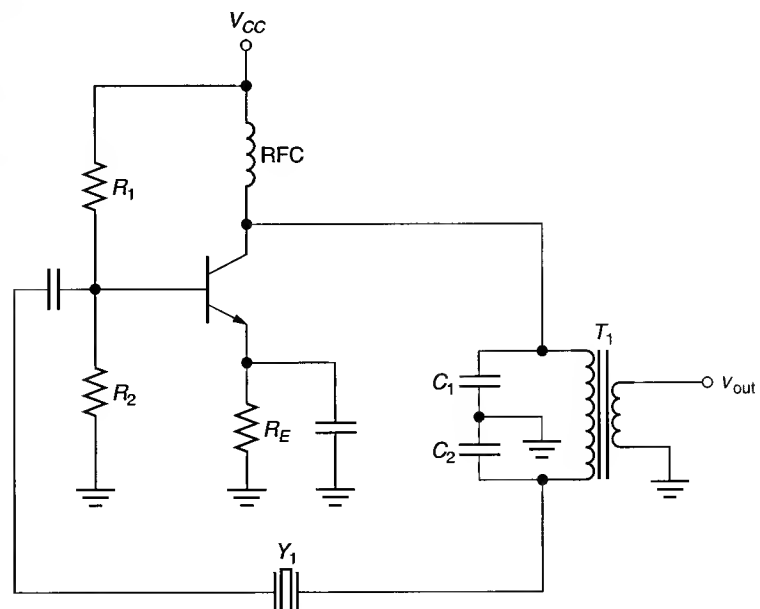

FIGURE 18.22 Crystal-controlled Colpitts oscillator.
The Colpitts oscillator can be modified into a *crystal-controlled oscillator* (CCO), as shown in Figure 18.22. As you can see, a crystal (Y_1) has been added in series between the LC circuit and the amplifier input. The crystal acts as a *series-resonant* circuit (at f_s), allowing the feedback voltage to pass to the amplifier input with minimum attenuation. In other words, when operated at f_s , the impedance of the crystal drops to nearly zero, and the LC circuit is coupled directly to the amplifier input.
5. What prevents the circuit shown in Figure 18.22 from operating at the parallel-resonant frequency of the crystal (f_p)?
30. Any *LC* oscillator can be converted to a *crystal-controlled oscillator* (CCO) by adding a crystal to the feedback network (see Figure 18.22).